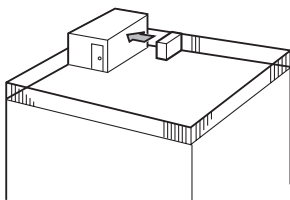

Fig. 4-3
- ① Face the air outlet towards the nearest available wall about 50 cm away from the wall. (Fig. 4-3)